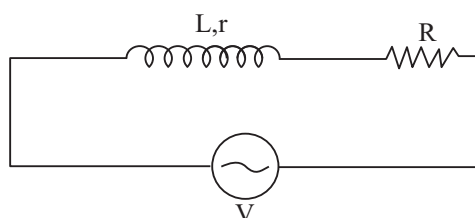

Fig. 24.2: Circuit diagram
- (iv) Refer to the circuit arrangement shown in fig.24.2